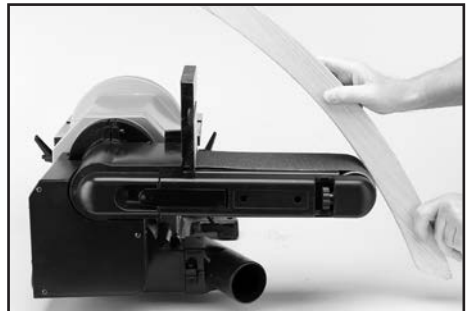

FIG.13
9.4 INSIDE CURVE SANDING - FIG. 13